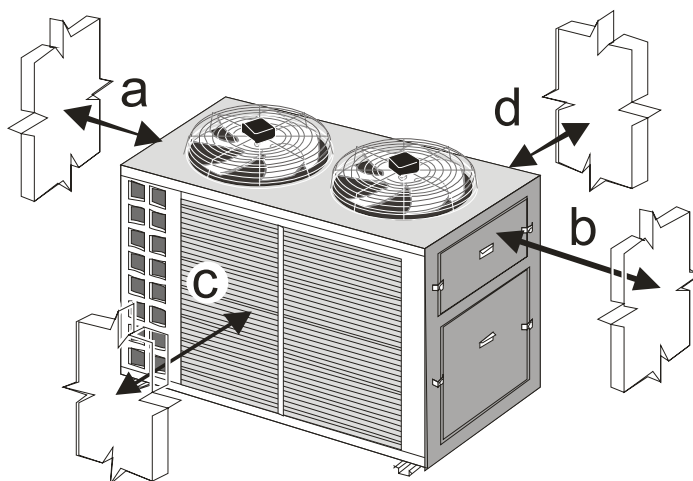

Fig. 6-3
- Make sure to leave sufficient space around the unit. See figure 6-3 for minimum required distance between the unit and nearby walls.